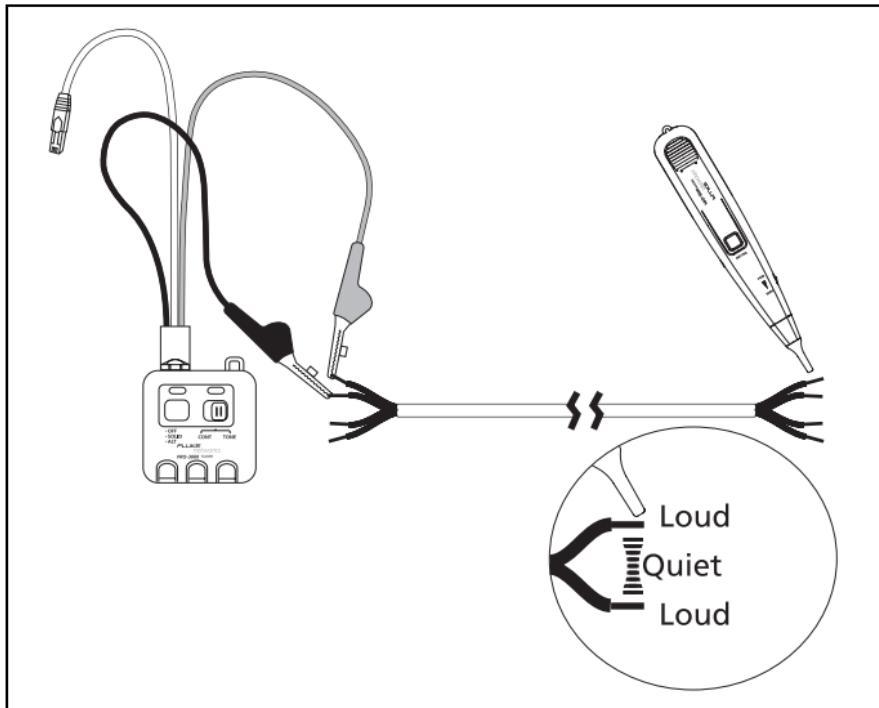

Figure 4. Tracing Pairs
- 2 Move the probe tip slowly at a right angle to the wires (see Figure 4). If the tone's volume is HIGH over the first wire, LOW in the middle between the two wires, and HIGH over the second wire, then you have located the target pair.
To use the SmartTone function (see Figure 4):